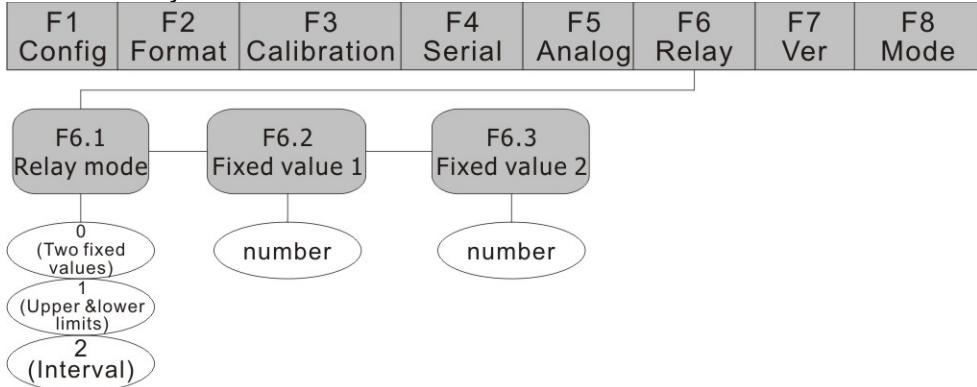
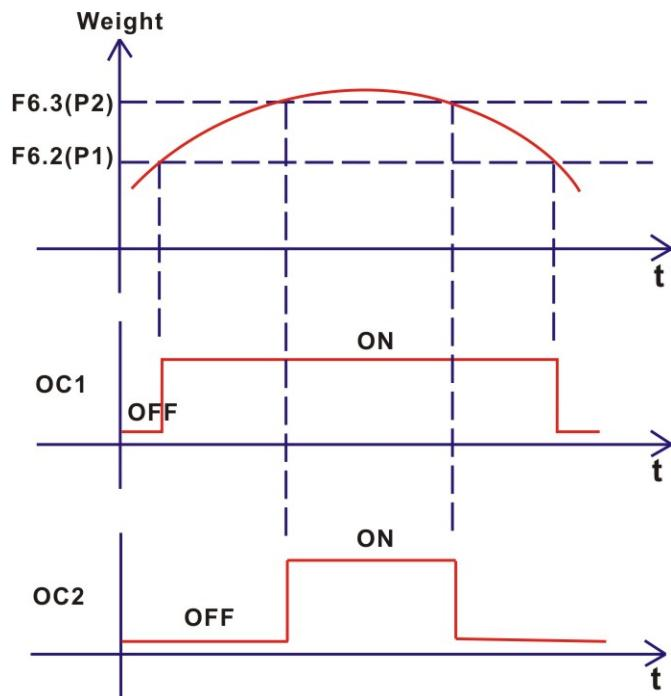

Fig.6-1 Relay Output Menu
Fig.6-2 Relay output-Two fixed values
- (1) Set indicator to the Configuration mode (display shows "F 1")
- (2) Press **TARE** until display shows "F6" (see Fig. 6-1). Press **ZERO** to go to the Relay Output Menu. Display shows "F6.1"
- (3) When display shows "F6.1", press **ZERO** again, indicator goes to the relay output menu. Press **TARE** to select the mode, the description of different modes is as follows:
- Two fixed values (F6.1=0): If weight value (refer to Note 2) is lower than the value set in F6.2, OC1 (OC is abbreviation for open-collector) is off; if weight value is higher than or equal the value set in F6.2, OC1 is on. If weight value is lower than the value set in F6.3, OC2 is off; otherwise, OC2 is on. See Fig.6-2.